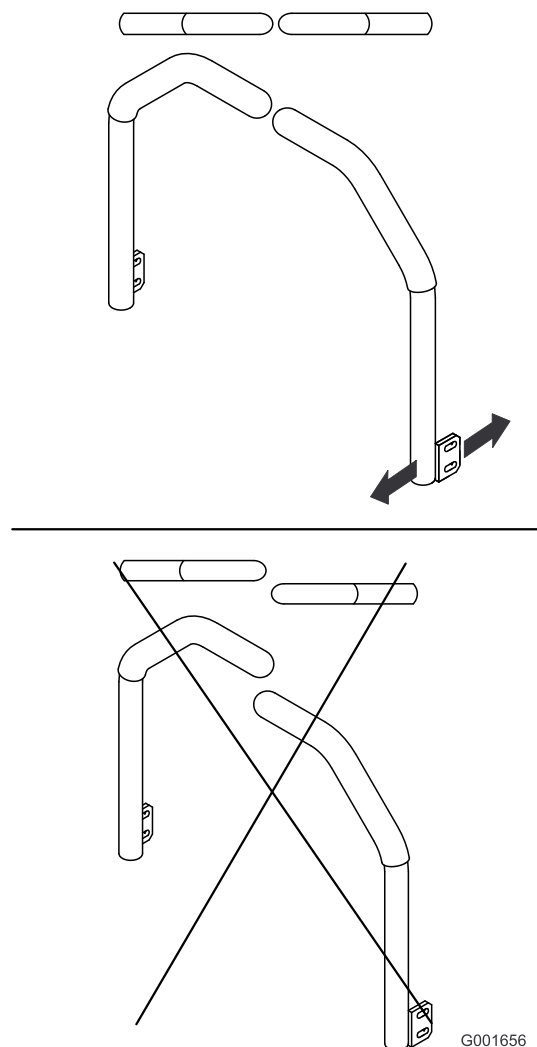

Figure 64
5. Adjust the control levers so that they line up (Figure 64) and tighten the bolts, securing the levers to the posts.